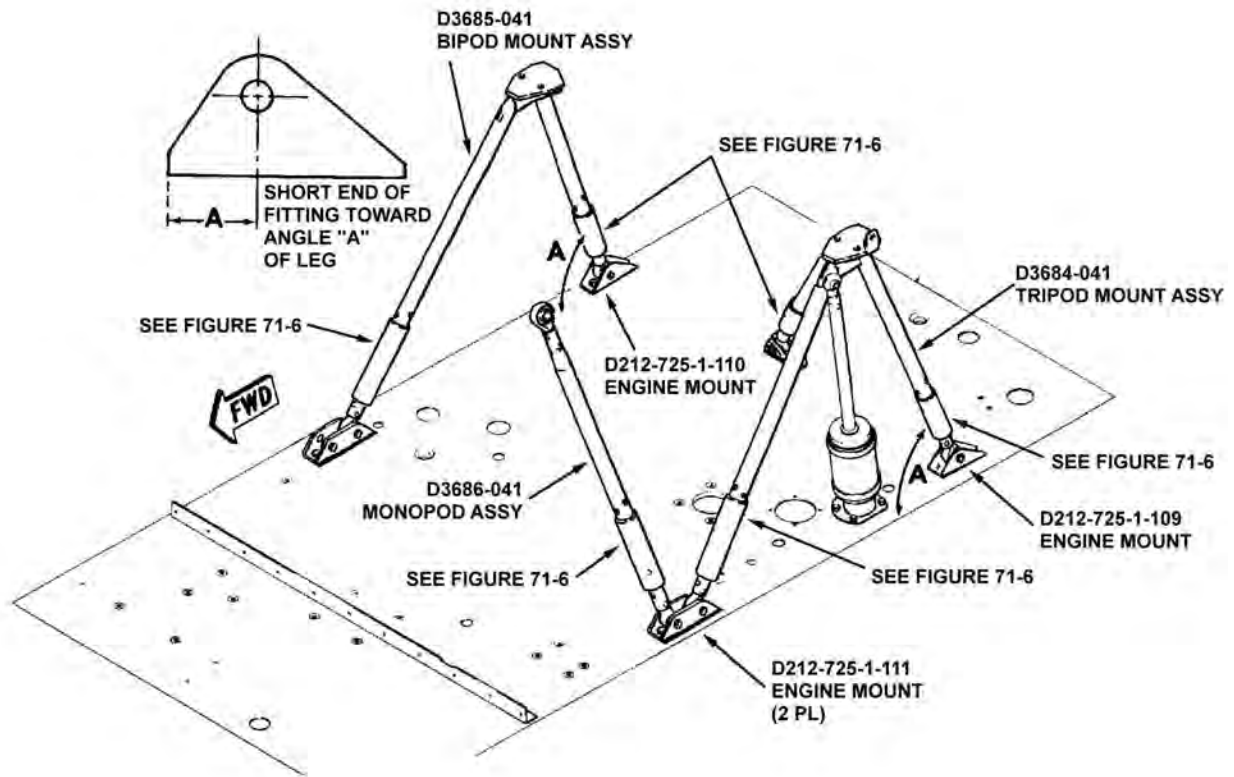

Figure 71-5. Engine Mount Fittings
71.1.1.4.1 Corrections to be made to engine alignment as follows (See Figures 71-5 thru 71-8)
71.1.1.5.1 Reinstall the engine support fittings with the short end of the fitting facing toward angle A of Figure 71-5. Check support fittings screws and bolts for correct length.